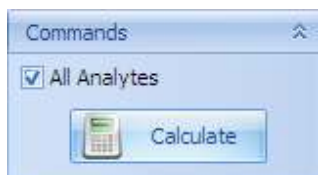

Figure 5.14 Model Equations drop-down list
1. Click Calculate button in the commands pane (Figure 5.14).